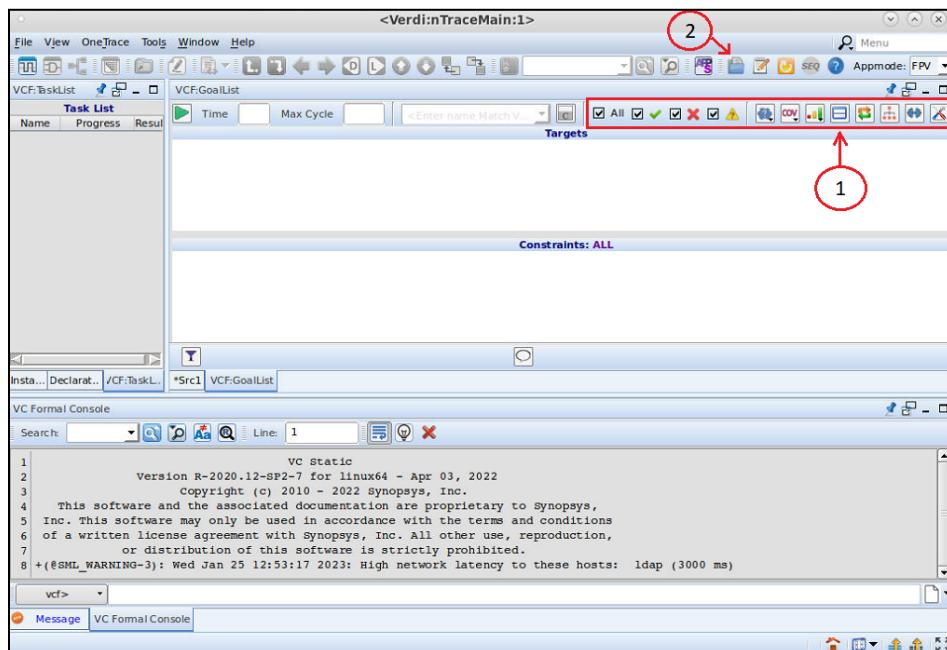

Figure 6. VC Formal GUI introductory screen.
You should then see the VC Formal GUI as shown in *Figure 6* below. You can toggle between showing Targets, Constraints, or both Targets and Constraints window by clicking the blue box icon in the upper right-hand of the application (1).
Then load a TCL script by clicking on the  icon (2) as shown in *Figure 6*.